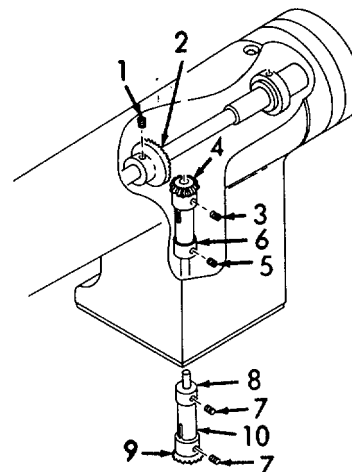

Figure 6-104. Vertical Shaft Assembly, Removal.
- (3) Refer to Figure 6-104. Loosen (but do not remove) two set screws (1) in top shaft gear (2). Move top shaft gear forward slightly.
- (4) Loosen two setscrews (3) on top vertical shaft gear (4).
- (5) Loosen two setscrews (5) on upper vertical shaft collar (6) and two setscrews (7) on lower vertical shaft collar (8).
- (6) Pull down lower vertical shaft gear (9) to remove vertical shaft (10).